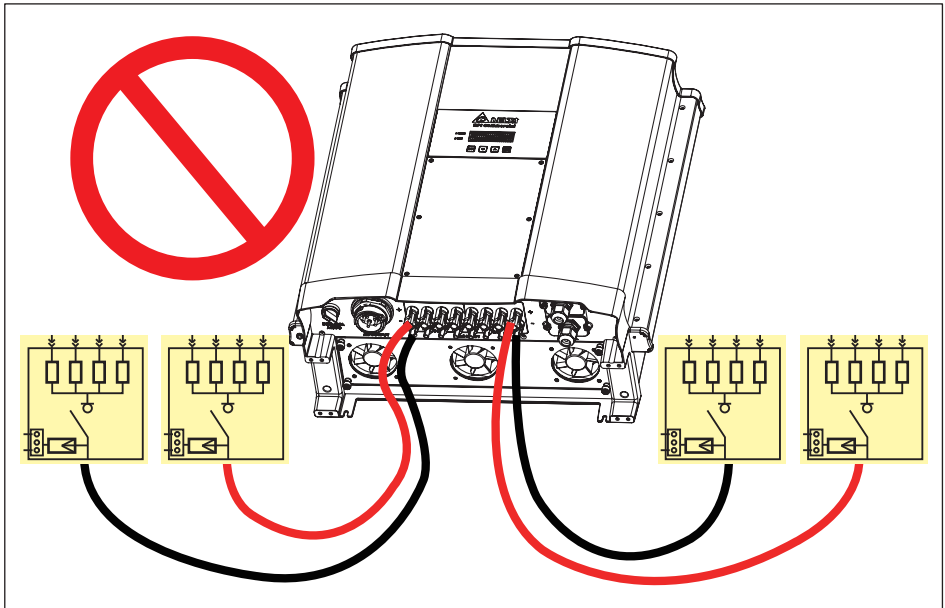

Figure 4-7 : Wrong connection – 1
- Normally, the output current of combiner box is larger than 16A. Thus it can't be used as the following diagram (Shown as **Figure 4-7**). The max input current of each string is 7.5A.